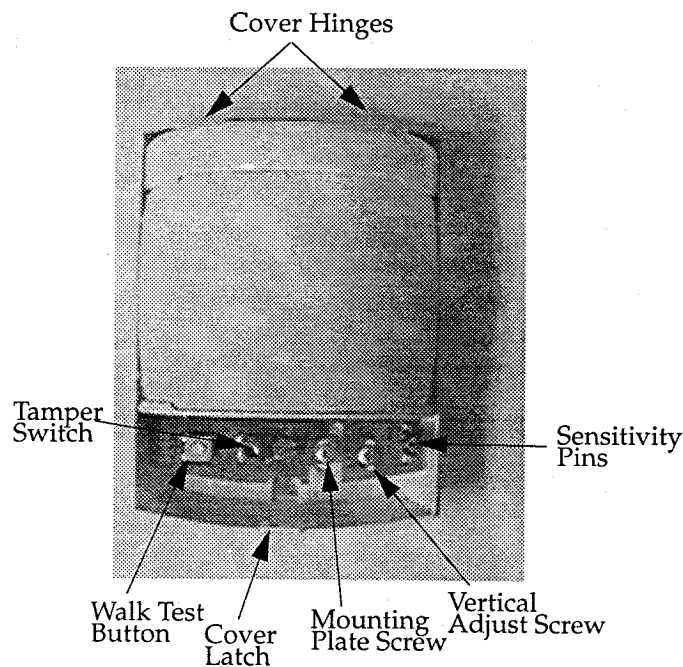

Figure C.7. Internal PIR Components
2. Press the Walk Test Button for approximately 3 seconds. (See Figure C.7 for test button location.)